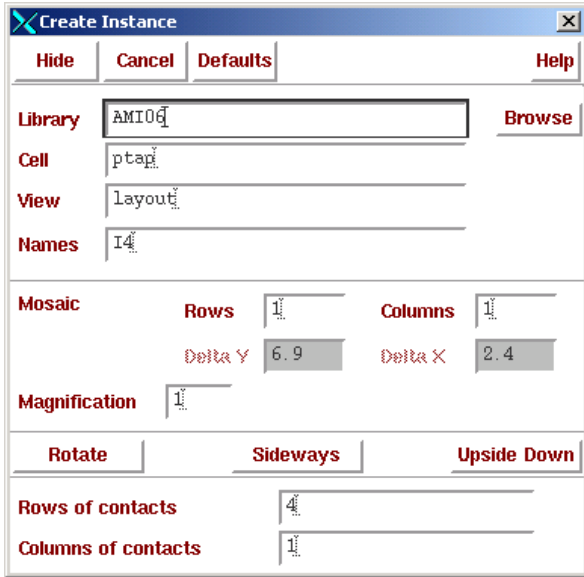

Figure 70: Ptap Pop-up.
7. Go back to the Create Instance pop-up and fill it out according to Figure 70.